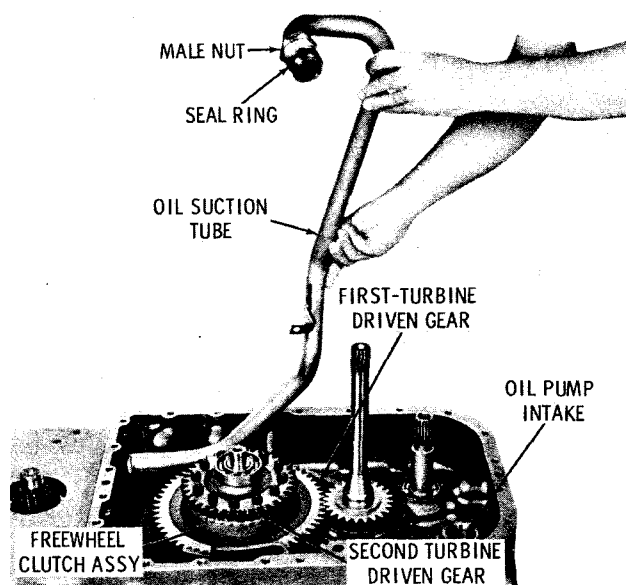

Fig. 7-32. Installing oil suction tube
(3) Install the turbine-driven gears and freewheel clutch assembly (as assembled in para 6-9) as a unit (fig. 7-32). Rotate the assembly to engage the second-turbine driven gear splines with those of the reverse-and-low-range sun gear.
(4) Lubricate the compression sealing with transmission fluid (fig. 7-32). Install the 1-3/4-14 male nut and compression seal ring onto the pump end of the oil suction tube. Insert the suction end of the tube into the sump area, and the pump end into the threaded hole at the pump intake. Make sure the seal ring is squarely seated in the intake boss. Install the nut into the boss but do not tighten at this time.